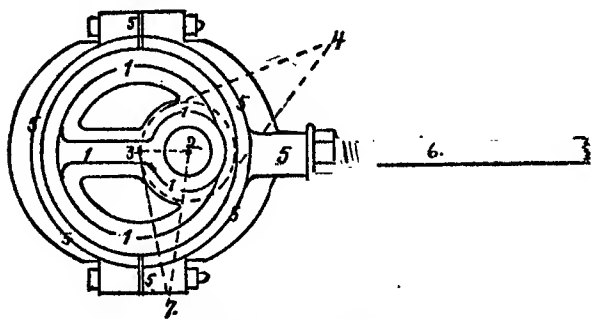

FIG. 45.—ECCENTRIC.
**Eccentric.**—The eccentric which is used to drive the valve consists of a circular disk 1 (Fig. 45) which is secured to the shaft and revolves with it. In the cut 3 is the